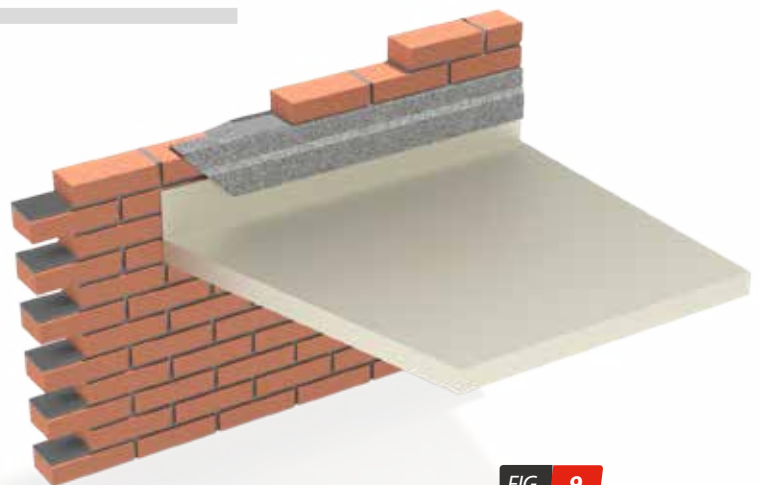

FIG. 9
**TECA FLEX** can be used as a flashing to modern fibreglass, GRP and plastic door/window/patio canopies, door hoods and carports (*fig. 9*).